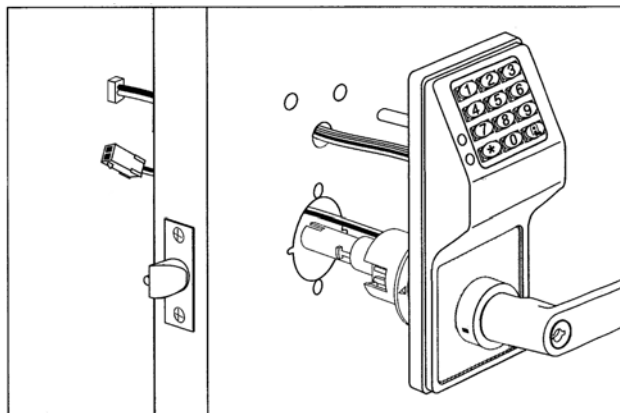

FIG. 7: INSTALL OUTSIDE LOCK BODY
1. Insert motor wire plug through the large 2 1/8" hole and the ribbon cable through the 1" hole as shown in Fig. 7.